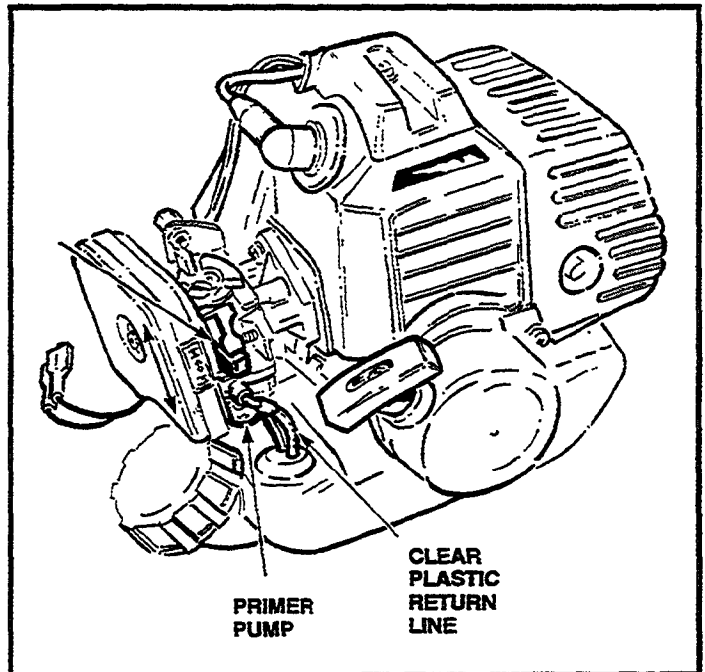

Figure 8
- Push the primer pump until fuel flows through the clean plastic return line (Figure 8).
- Place choke lever in the closed position (Figure 8).